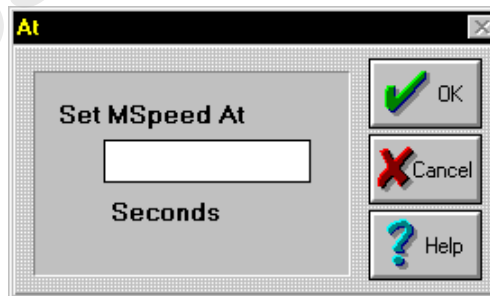

Figure 5.21. Set MSpeed At Dialogue Box
2. Using the <MSPEED> wheel set the desired value. Alternately, press the <SPEED> key in the CONSTRUCTS group and press the <AT> key in the SELECT group to bring up the **Set MSpeed At** dialogue box (Figure 5.21). Type in the desired value and click the **OK** button to complete the procedure.